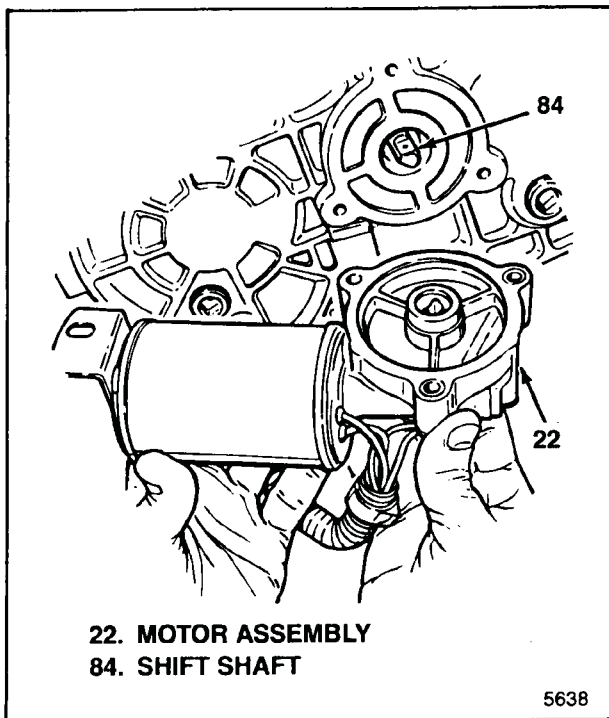
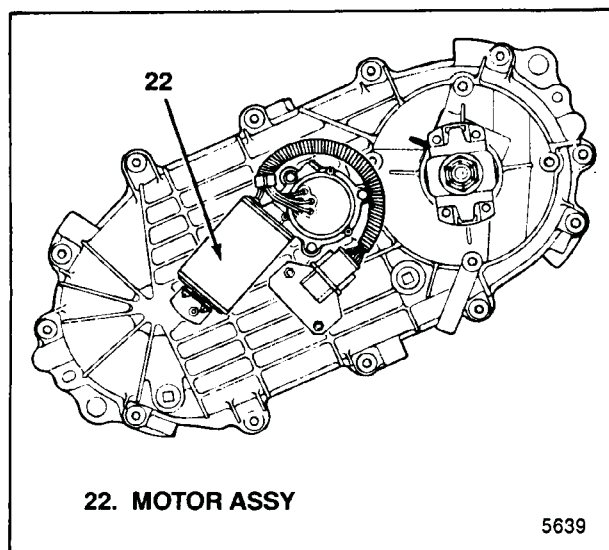

Figure 5-24. Motor Assembly Alignment
Figure 5-25. Motor Location
b. Position motor assembly (22) so that triangular slot in motor will align with shift shaft (84) (see figure 5-24). Move motor in to engage shift shaft and contact cover (35). Then rotate motor in clockwise direction until motor is in correct position (see figure 5-25) and mounting holes are aligned. Install bolts (16) and torque to 6-8 lb-ft (8-11 Nm).
c. Install bolt (15) at bracket end of motor assembly (22) and torque to 6-8 lb-ft (8-11 Nm).
d. Fit o-ring (21) on speed sensor (20) and install in cover.
e. Attach bracket (18) with bolts (17) and torque to 6-8 lb-ft (8-11 Nm).